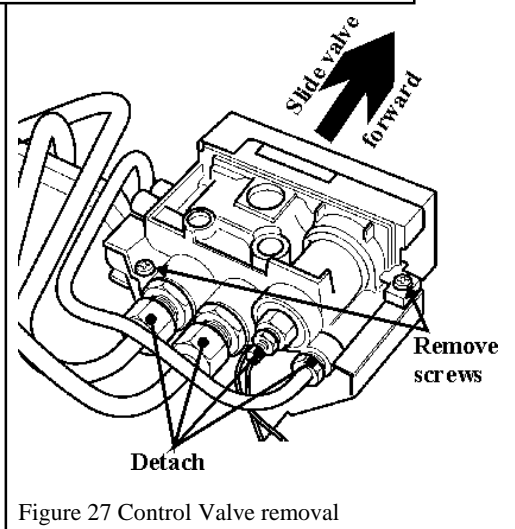

Figure 27 Control Valve removal
- Remove the two mounting screws on the underside of the gas valve. See figure 27.